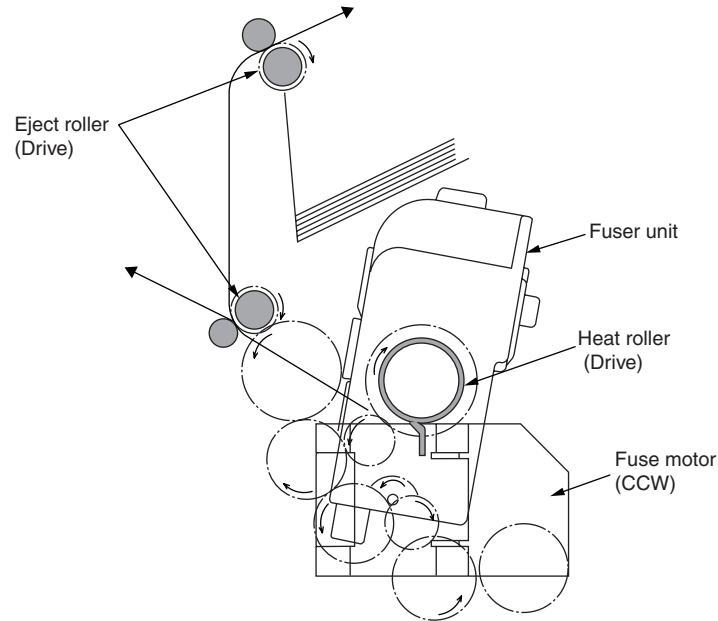

Figure 2-8
1. The fuse unit and the eject roller are driven by the DC motor as shown in Fig. 2-8. When the fuse motor is rotated (counter clockwise), the heat roller will begin to rotate. The heat roller makes the toner image fused to the paper by heat and pressure.